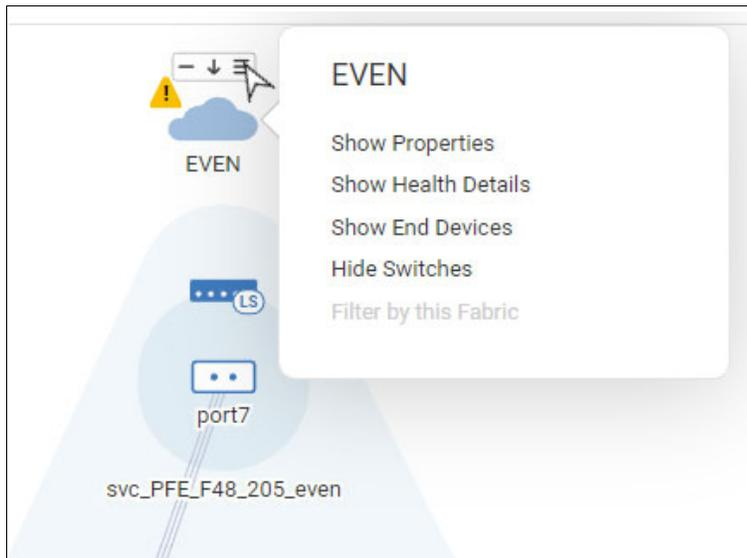

Figure 5-88 Hover your cursor over the fabric icon
5. Hover your cursor over the fabric icon or a switch icon, click the hamburger icon, and select any of the menu options (Figure 5-88).